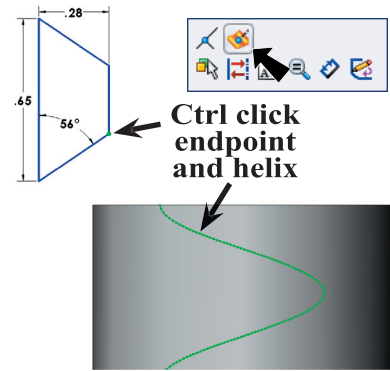

Fig. 26
- Step 2. Select the **bottom right endpoint of the sketch and helix**. Use **Ctrl click**. To Ctrl click, click the **bottom right endpoint of the sketch**, then hold down the Ctrl key and click **helix** (not the endpoint of the helix), **Fig. 26**.
- Step 3. Click **Make Pierce**  on the Content menu, **Fig. 26**. Make Pierce adds a Pierce relation between sketch and helix, **Fig. 27**.